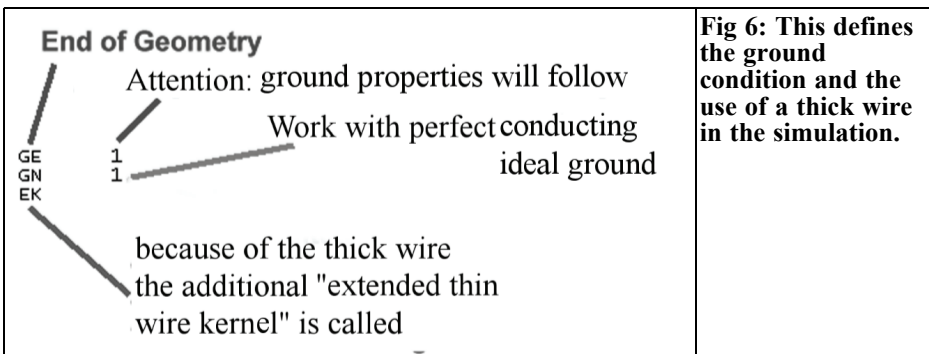

Fig 6: This defines the ground condition and the use of a thick wire in the simulation.
- The next three entries; GE/GN/EK are all shown in Fig 6. They concern the end of the geometry data, also “the Ground” and the fact that the antenna wire is not infinitely thin.